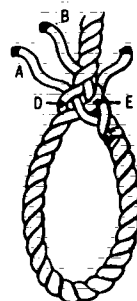

Figure 7-34. Making a Side Splice
- Step 1.** Start by seizing the working end of the rope. Unlay Strands A, B and C, to the seizing and whip the end of each strand. Then twist the rope slightly to open up Strands D, E and F of the standing part of the rope, as indicated in Figure 7-34, Step 1.
- Step 2.** The first tuck is shown in Figure 7-34, Step 2. The middle strand is always
- Step 3. The second tuck is now made as illustrated in Figure 7-34, Step 3. Left Strand A of the working end is tucked under Strand D, passing over Strand E.
- Step 4. Figure 7-34, Step 4 illustrates how the third tuck is made. To make Strand F easy to get at, the rope is turned over. Strand C now appears on the left side.
- Step 5. Strand C is then passed to the right of and tucked under Strand F, as illustrated in Figure 7-34, Step 5. This completes the first round of tucks.
- Step 6. Figure 7-34, Step 6 illustrates the second round of tucks started, with the rope reversed again for ease in handling. Strand B is passed over Strand D and tucked under the next strand to the left. Continue with Strands A and C, tucking over one strand and then under one to the left. To complete the splice, tuck each strand once more.
- Step 7. Remove the temporary seizing and cut off the strand ends, leaving at least 1/2" on each end. Roll the splice back and forth under your foot to even up and smooth out the strands. The completed Eye Splice is illustrated in Figure 7-34, Step 7.